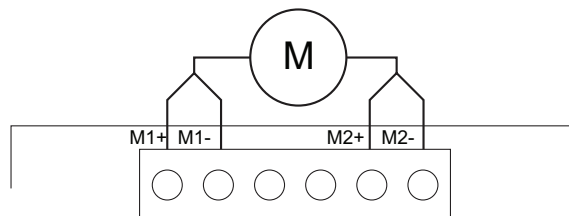

FIGURE 4. SDC2130S and SDC2160S Wiring Diagram
The single channel version of the controller (SDC2130S and SDC2160S) require that the output be parallel and that the load be wired, as shown in Figure 4, below.
**This wiring in Figure 4 is only possible on controllers fitted with the Single Channel version of the firmware. Dual channel controllers will be damaged if wired as single channel. Verify that the PC utility identifies the controller as SDC2130S or SDC2160S before applying power to the load.**